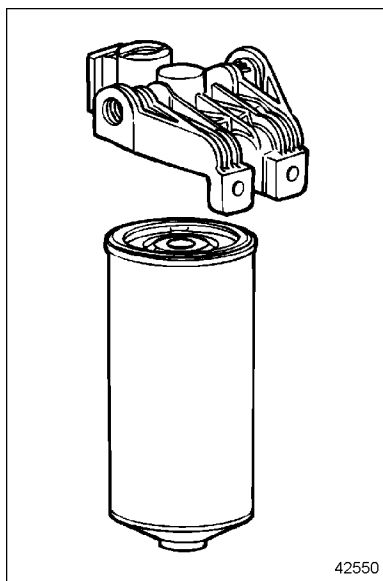

Figure 25 Typical Spin-On Type Fuel Filter
- Using a suitable band type filter wrench, remove the primary and secondary spin-on fuel filters. See Figure 25. Dispose of the filters in an environmentally responsible manner, according to federal (EPA) and/or state recommendations.